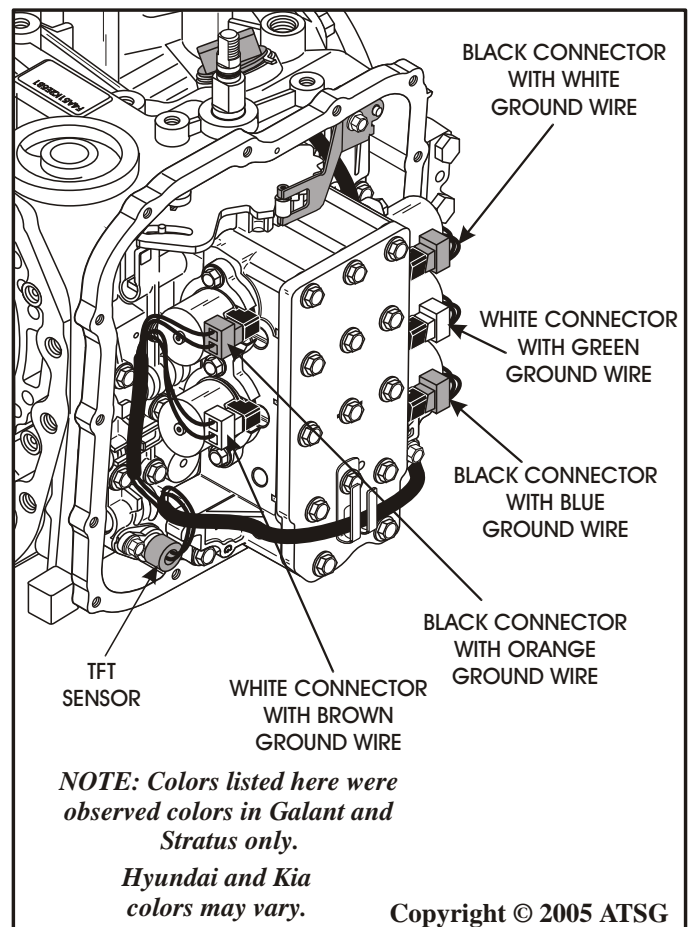

Figure 27
2. Disconnect the shift solenoid connectors and the fluid temperature sensor connector, as shown in Figure 27.